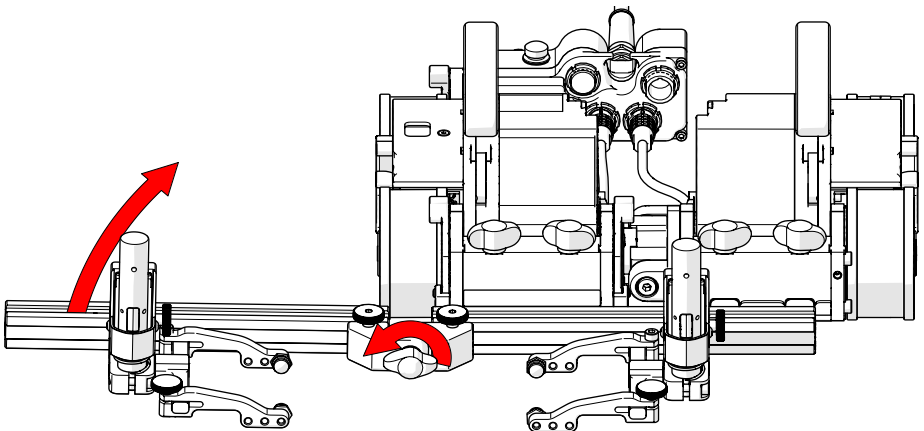

Fig. 250 - Lift frame bar to avoid interference
2. Loosen the pivot wing knob and raise the frame bar to an angle greater than the surface to be scanned (*Fig. 250*). Tighten the pivot wing knob and place crawler on scan surface (see "Placement of Crawler on Inspection Surface" on page 129).